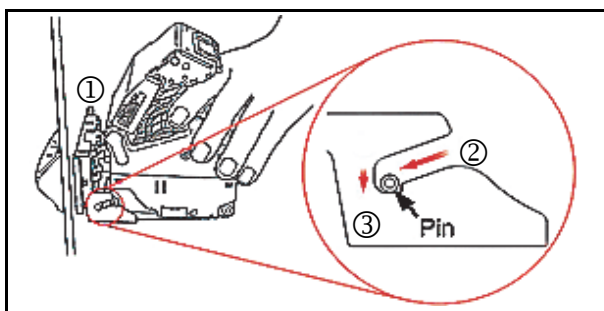

Figure 2-6 Installing the Taiko Bezel
9. Open the Upper Lid by pressing-in and holding down the Upper Lid Open/Close Buttons while lifting the Lid up (See Figure 2-6 ①).
10. Insert the Bezel Installation Guide Pin into the Bezel Guide (See Figure 2-6 ②).
11. Slide the Guide all the way in and push down on the Taiko™ Unit body (See Figure 2-6 ③).
NOTE: Re-install the Taiko Unit onto the Bezel by reversing the steps related to, and beginning from Figure 2-6 on page 2-2 of this Section.